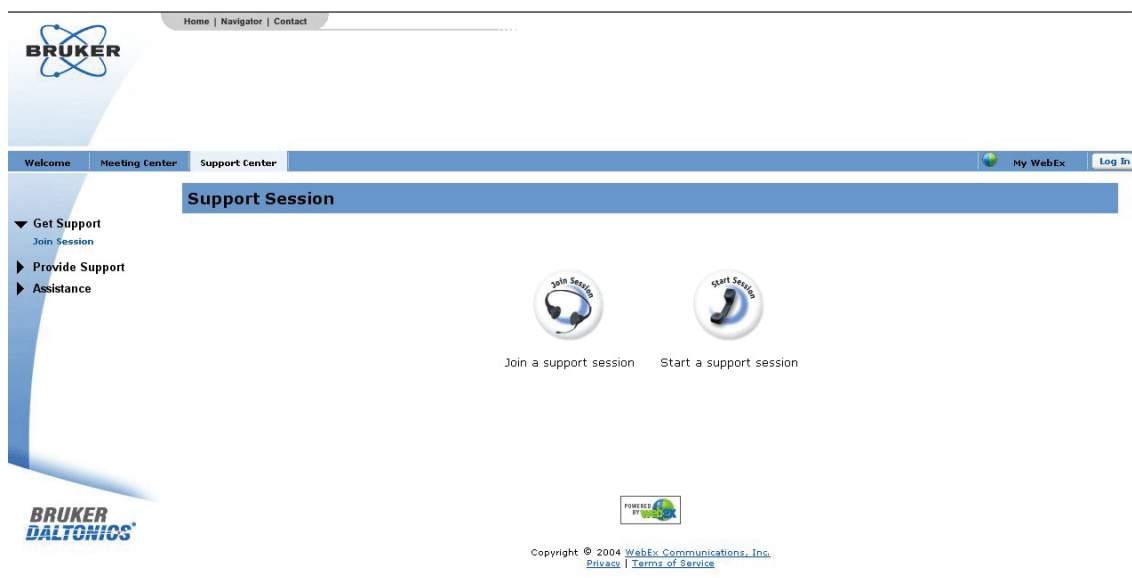

Figure 3-12 Webpage of Bruker Enterprise
1. Select <http://bdal.webex.com>. Figure 3-12 appears.